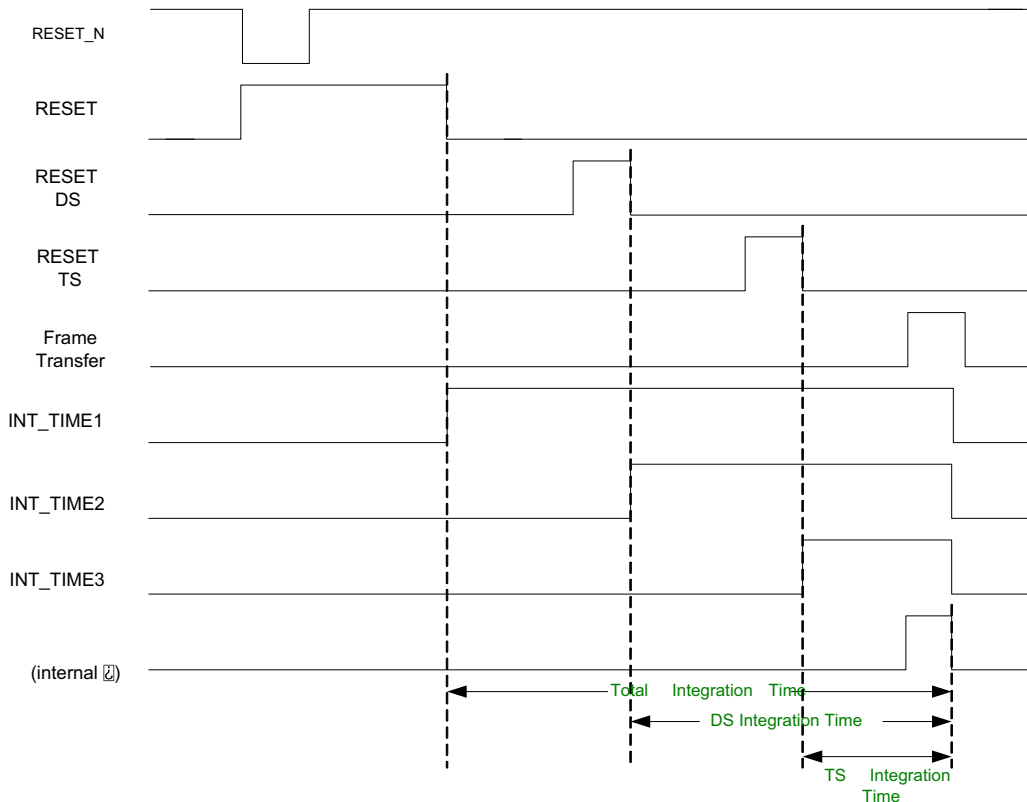

**Figure 15. Integration Timing in Master Mode**
In mastermode the integration time, the dual slope (DS) integration time, and triple slope (TS) integration time are set by the SPI settings. Figure 15 shows the integration timing and the relationship with the SPI registers. The timing concerning integration is expressed in number of lines read out. The timing is controlled by four SPI registers which need to be uploaded with the desired number of lines. This number is then compared with the line counter that keeps track of the number of lines that is read out.
**FT\_TIMER <11:0>:** The number of lines read out (minus 1) after which the Frame Transfer (FT) and the FOT starts. The length of the pulse is given by the formula:  $4 \cdot (12 \cdot (\text{GRAN} \langle 1:0 \rangle + 1) + 1)$  (in clock cycles).
The length of the integration time, the DS integration time and the TS integration time are indicated by 3 output pins: INT\_TIME\_1, INT\_TIME\_2 and INT\_TIME\_3. These outputs are high during the actual integration time. This is from the falling edge of the corresponding reset pulse to the falling edge of the internal pixel sample. Figure 16 illustrates this. The internal pixel sample rises at the moment defined by FT\_TIMER (see Figure 15) and the length of the pulse is  $4 * (12 * (GRAN<1:0> + 1) + 2)$ .